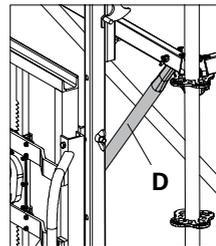

Fig. 19a
Mount the Diagonal (D) in the connector area of the Trolley with Winch on the inside of the tower. (Fig. 19a)